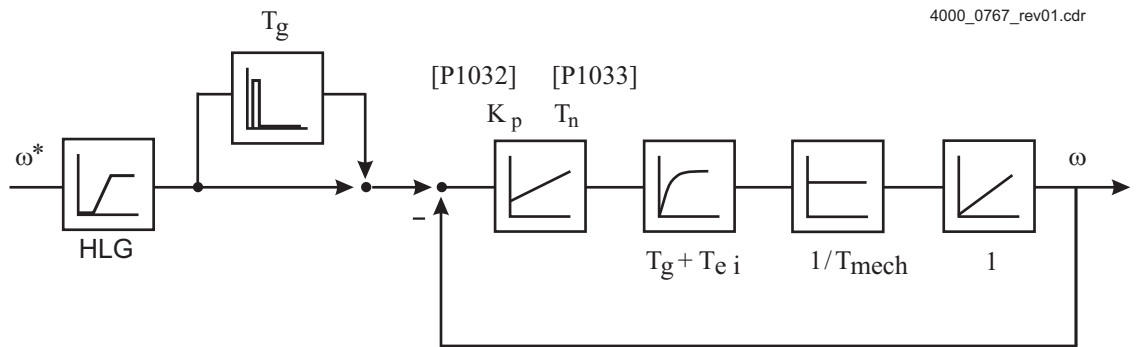

Figure 96: Block diagram speed controller with mechanical time constant and ramp function generator
By means of the mechanical time constant the speed controller can be represented as in ▶Figure 96◀ and is parameterized with the symmetrical optimum (good disturbance rejection).
speed control (-3) and speed default (2)) to smooth the reference variable at rapid speed set value changes (in an external control unit) or limit its increase by a ramp function generator in the controller as shown in ▶Figure 96◀ on page 216.